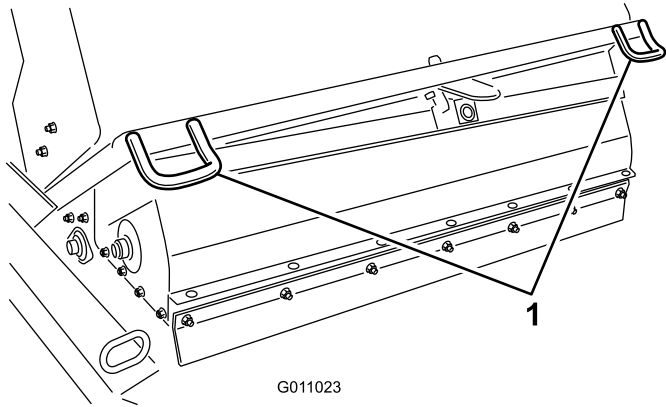
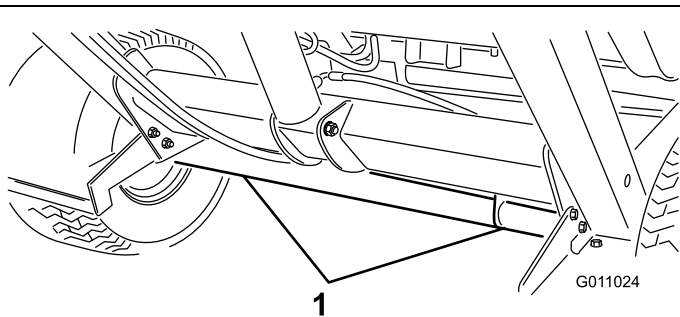

Figure 29
Figure 30
- When transporting the sweeper, use the tie-downs to secure the front of the machine (Figure 29) and the axle (Figure 30) to secure the rear of the machine to the trailer.